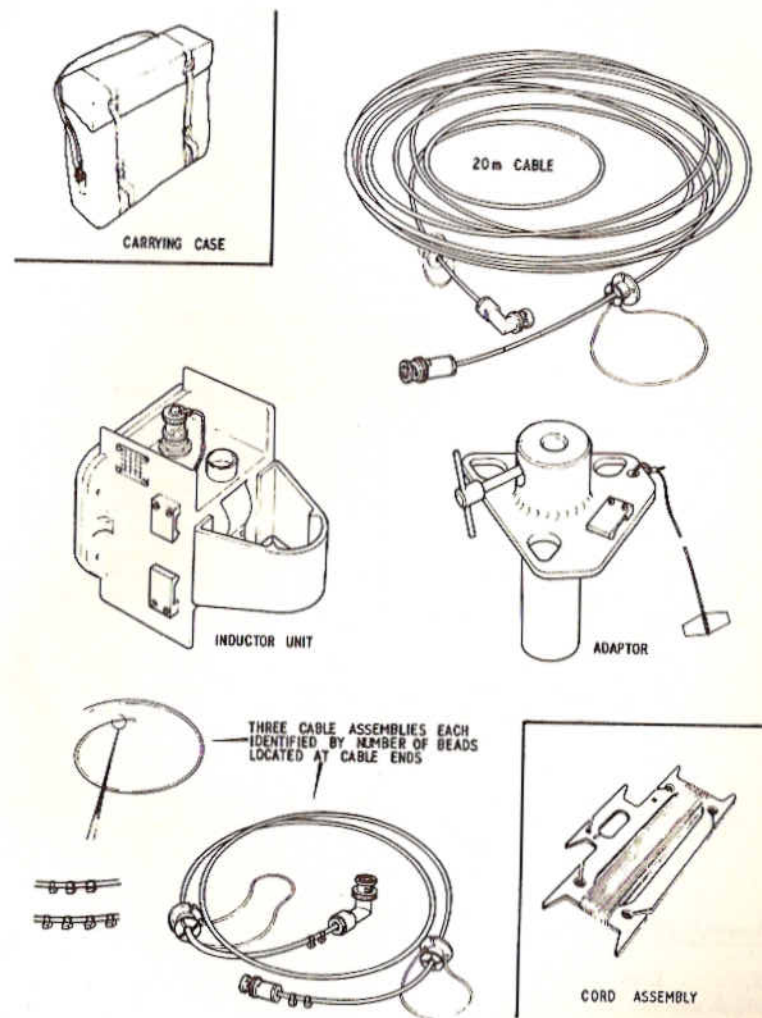
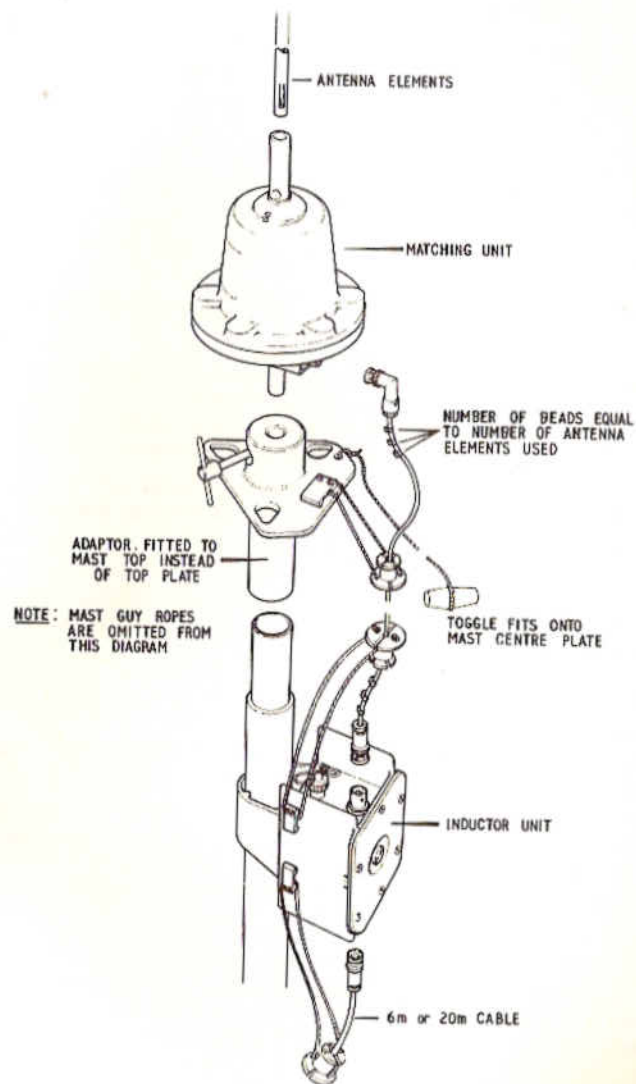

Fig 24 Items Forming Elevated Kit
Fig 25a Assembly to top of 5.4m Mast
- The kit provides an adaptor to enable the antenna to be fitted to the top of a 5.4m mast (NATO code no. 5820-99-621-9027), three lengths of cable for lower elements, an inductor unit arranged to attach to the mast and a 20m cable to connect the inductor to the radio in case the 6m cable supplied with the antenna is not long enough (Fig.24 refers).
(1)	Mast section assembly (section), 5820-99-621-9017	6 off
(2)	Guy assembly (guy), 5820-99-621-9018	6 off
(3)	Stake, peg assembly (stake), 4030-99-621-9019	5 off
7. Assemble the elevated kit (Fig.24) to the 5.4m mast as follows (Fig.25a); remove each item from the relevant carrying case only when the item is required.